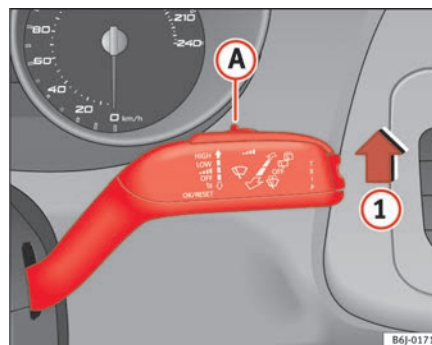

Fig. 62 Windscreen wiper lever
- Move the windscreen wiper lever into position **1** ⇒ fig. 62.